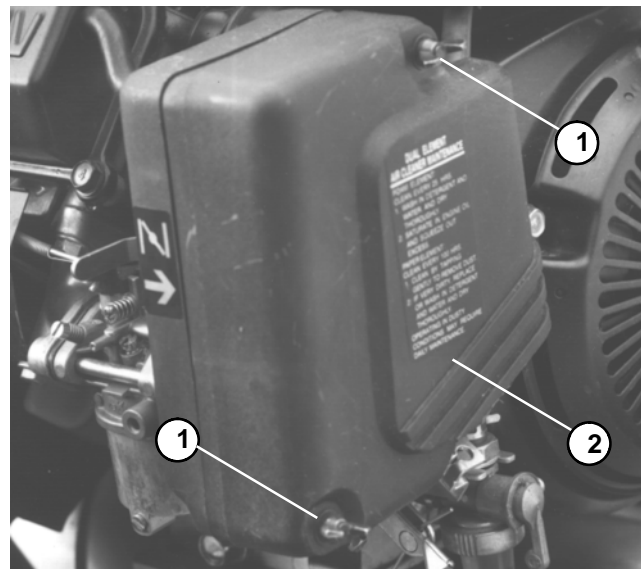

Figure 9
2. Remove wing nuts securing the air cleaner cover to air cleaner and remove cover. Clean cover thoroughly (Fig. 9).